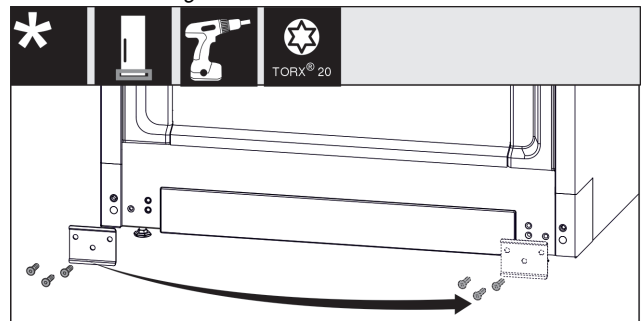

Fig. 21
- ▶ Unscrew the plate Fig. 21 (1), move it to the other side and screw it back on.